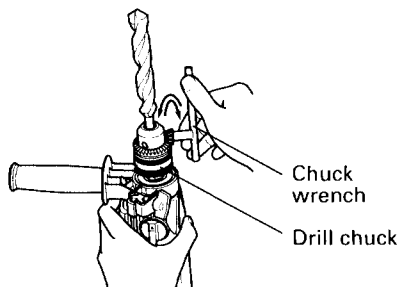

Fig. 2
**For Drill chuck with chuck wrench** (Fig. 2)